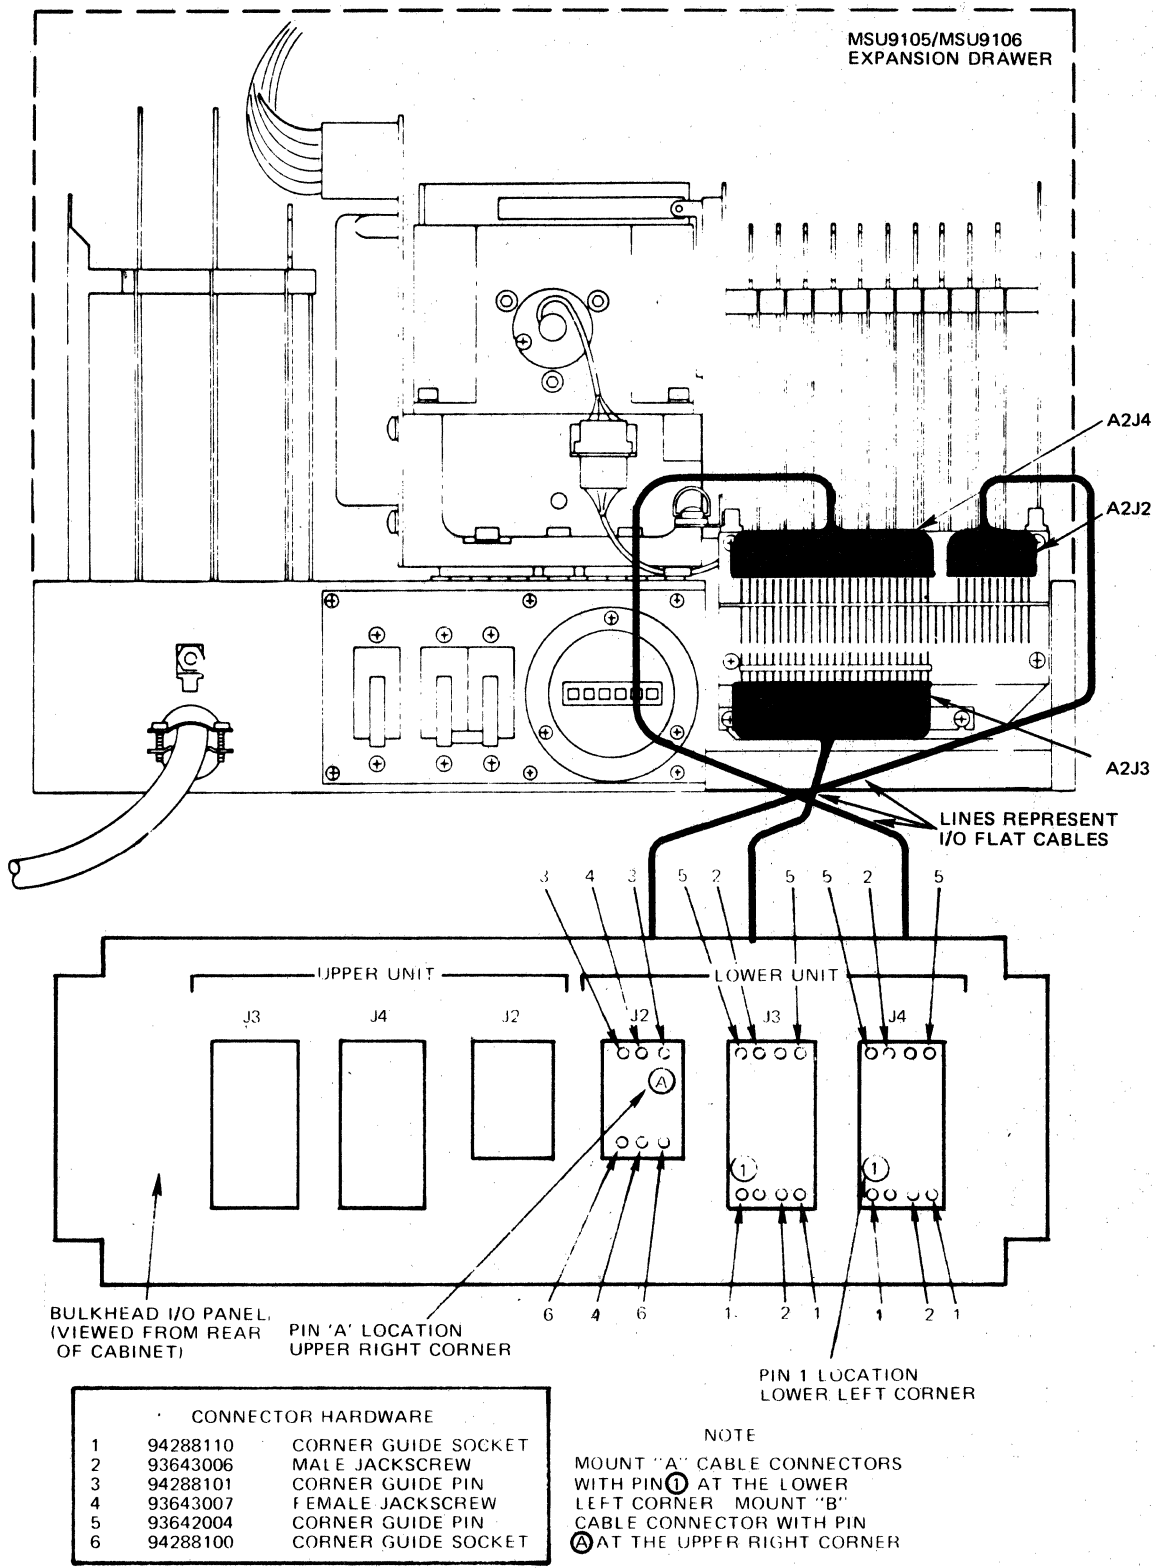

Figure 2-12 I/O Cable Connections
4. From LOWER UNIT portion of I/O bulkhead panel, locate J2 connector slot. From rear of I/O bulkhead panel, insert the A5J2 bulkhead receptacle of that I/O cable into J2 slot with pin A at upper right, and fasten as follows (see Figure 2-12):
5. From the LOWER UNIT portion of I/O bulkhead panel, locate J3 connector slot. From rear of I/O bulkhead panel, insert A5J3 bulkhead receptacle of that I/O cable into J3 slot with pin 1 at lower left, and fasten as follows (see Figure 2-12):
6. From LOWER UNIT portion of bulkhead I/O panel, locate J4 connector slot. From rear of I/O bulkhead panel, insert A5J4 bulkhead receptacle of that I/O cable into J4 slot with pin 1 at lower left, and fasten as follows (see Figure 2-12):